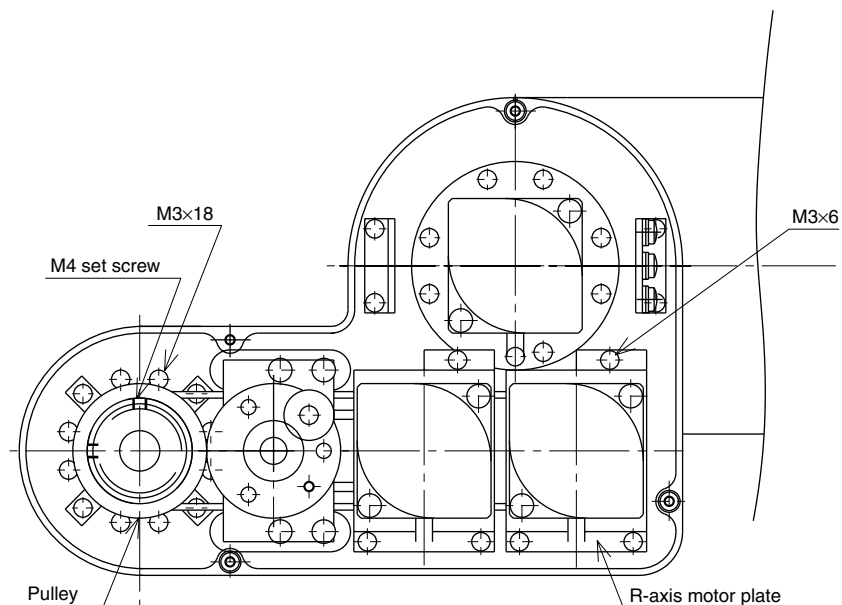

Fig. 5-15
- 10) Remove the bolts (M3×6L, 3 pieces) securing the R-axis motor plate at the top of the Y-axis arm. (See Fig. 5-15.)
- 11) Loosen the pulley set screw (M4, 2 pieces) and remove the pulley from the wave generator. (See Fig. 5-15.)
- 12) Remove the harmonic drive installation bolts (M3×18L, 8 pieces) and pull out the harmonic drive from the bottom of the Y-axis arm. (See Fig. 5-15.)
- 21) Check that the timing belt is fitted on the wave generator pulley and motor pulley, and then secure the motor plate. (See Fig. 5-15.)